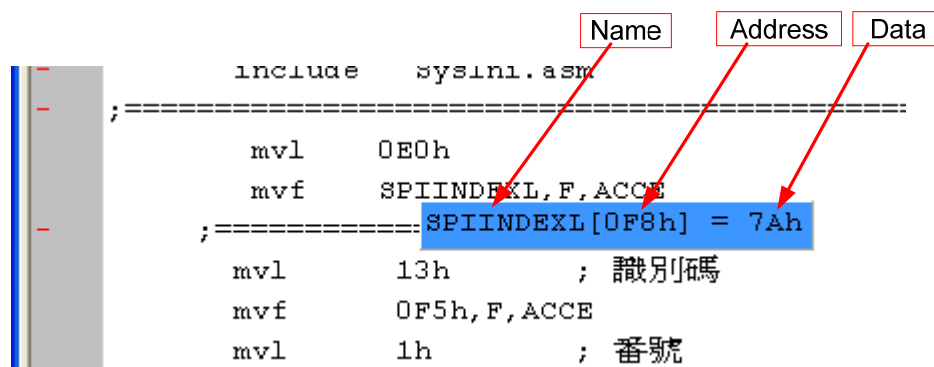

Figure 3-46
- Only the first followed argument is effective as Figure 3-46 described.